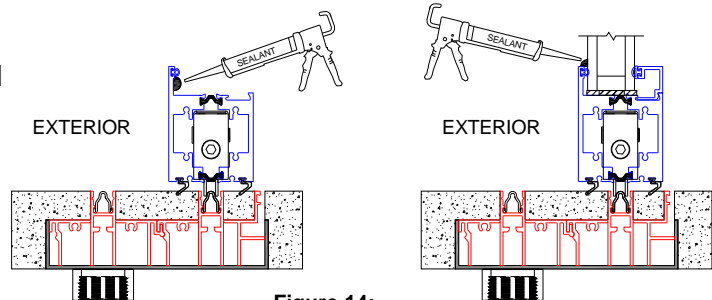

Figure 14:
- Apply a continuous 1/4"x1/4" bead of sealant before and/or after glazing. (Figure 14).